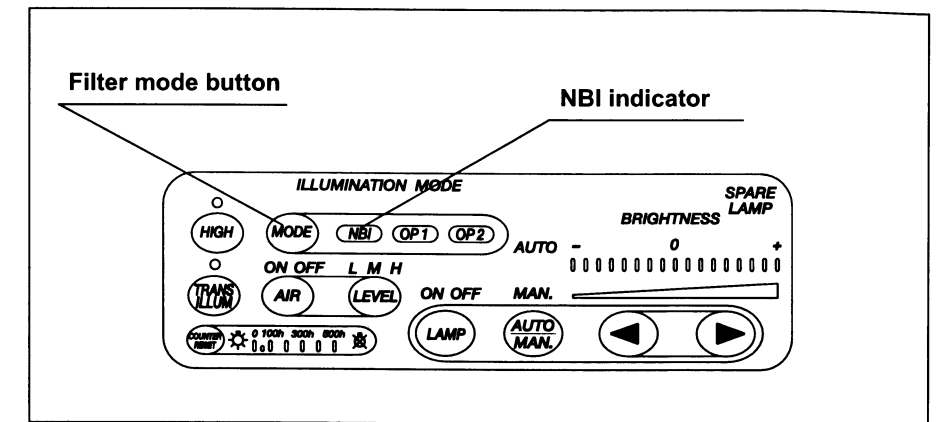

Figure 3.16
1. Confirm that the filter mode button lights and the “NBI” indicator lights in green (see Figure 3.16).